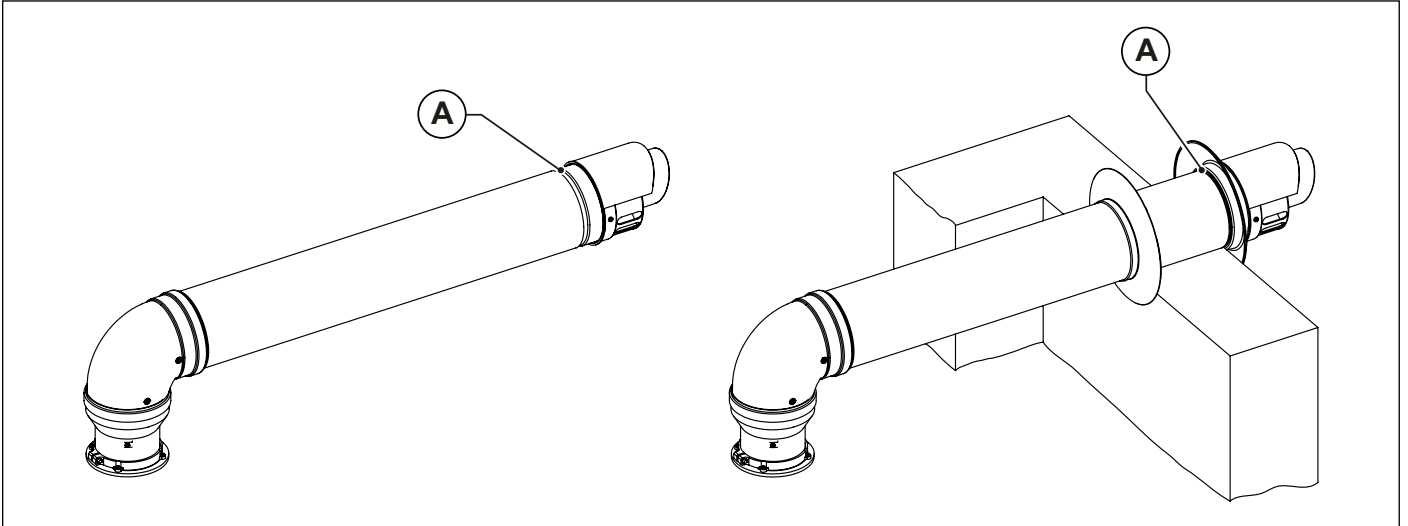

Fig. 14 Wall-mounted terminal installation
The final parts of air intake and flue gas venting terminals, both split and coaxial, feature a groove (A) to fix the external collar (see Fig. 14 Wall-mounted terminal installation).